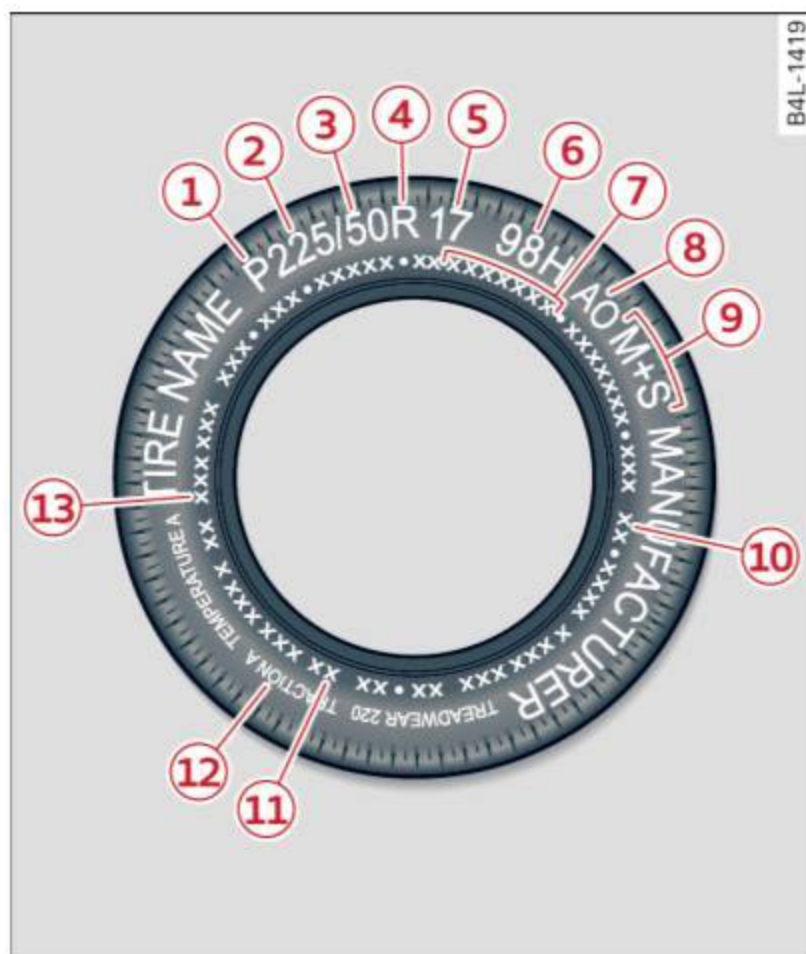

Fig. 193 Tire specification codes on the sidewall of a tire
- ▶ Check the tire sidewall (⇒ *page 242, fig. 193*) to determine the designated load rating for a specific tire.
Federal law requires tire manufacturers to place standardized information on the sidewall of all tires ⇒ *fig. 193*. This information identifies and describes the fundamental characteristics, the quality grade of the tire and also provides a tire identification number ►
Quality grades can be found where applicable on the tire side wall between tread shoulder and maximum section width ⇒ *page 242, fig. 193.*